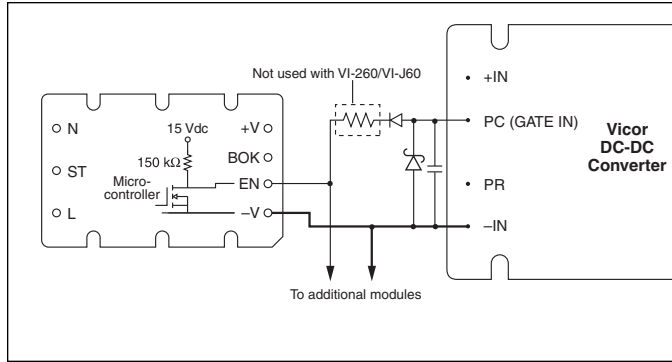

Figure 7-4 — Enable (EN) function
**Enable (EN) Pin.** (Figure 7-4) The Enable pin must be connected to the PC or GATE IN pin of all converter modules to disable the converters during power up. Otherwise, the converters would attempt to start while the hold-up